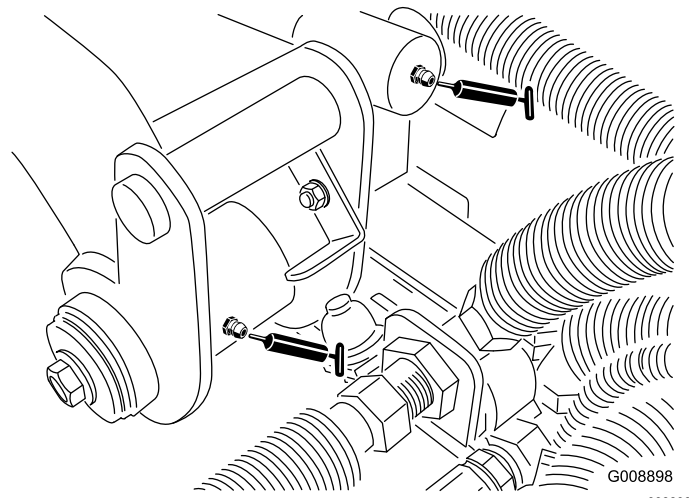

Figure 53
- Rear lift arm pivot and lift cylinder (2) (Figure 53)